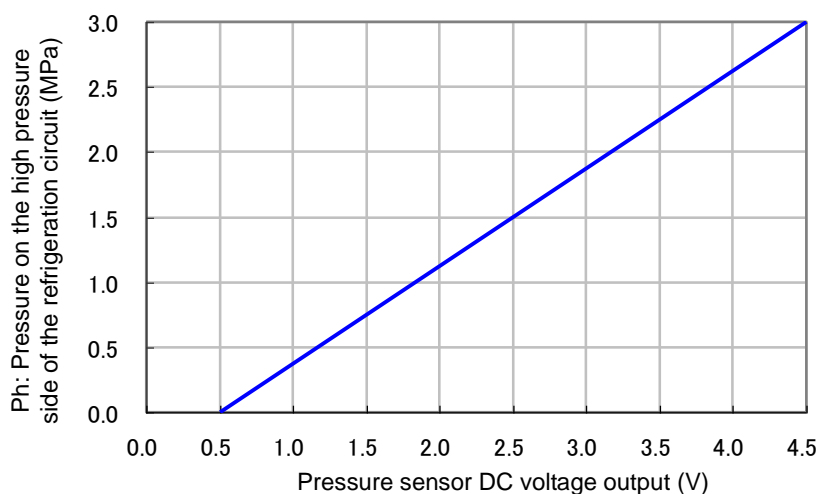

Fig. 3.3-18 Refrigerant circuit pressure sensor (for high pressure) analogue output
- (1) Check the "Ph: Refrigerant circuit pressure on the high pressure side" value in the "Check Monitor Menu".
- (2) Check voltage by contacting the probe of the tester directly to the connector external surface with the "CN4" connector of the main board being inserted.
- (3) Contact the positive probe to the pin number 11 and contact the negative probe to the pin number 10 of the "CN4" connector.
- (4) Check that the voltage between the pin number 11 and the pin number 10 is in the same relationship shown in Fig. 3.3-18. (Accuracy: +/- 5%)
- (5) If the voltage is in the same relationship as the graph shows, it means that the main board is operating correctly.